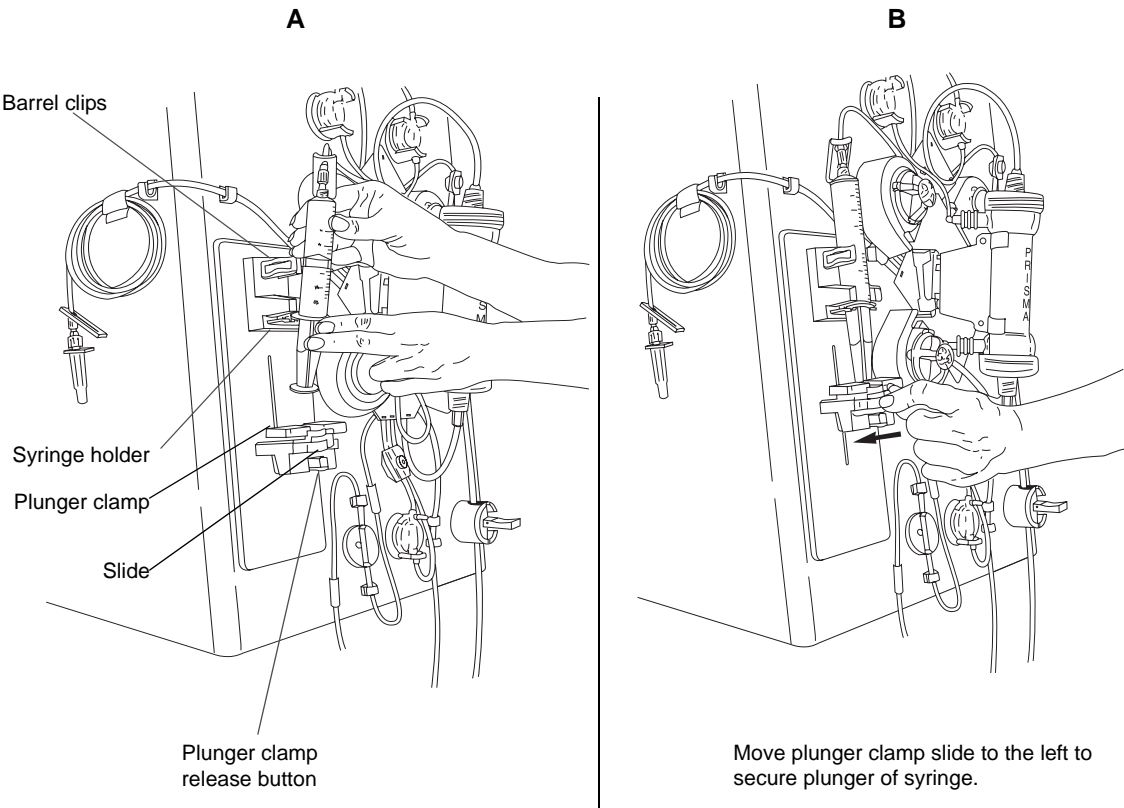

Figure 9. Installing the Anticoagulant Syringe with the PRISMA Set for CRRT
(See Figure 9)
4. Install the full syringe, following Steps 5 through 7 under "Initial Syringe Installation." See Figure 9.